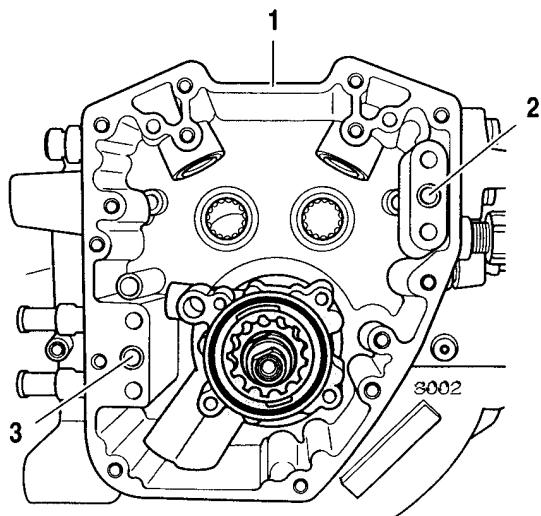

Figure 3-57. Ring Dowels
13. See Figure 3-57. Two ring dowels (2, 3) in crankcase flange locate cam support plate.